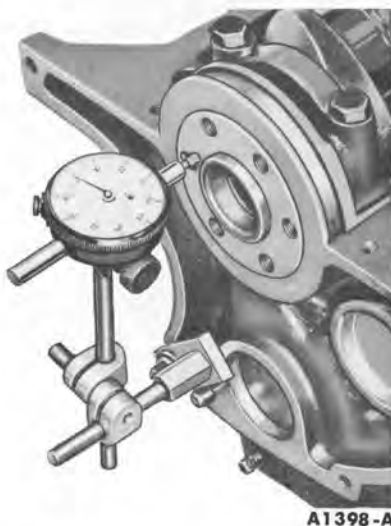

FIG. 76—Crankshaft End Play
17. Install a dial indicator so that the contact point rests against the crankshaft flange and the indicator axis is parallel to the crankshaft axis (Fig. 76).